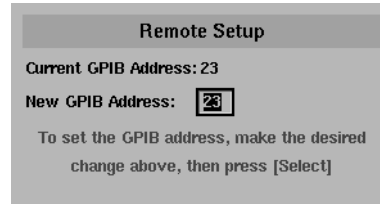

Figure 4. Remote Setup panel
2. Turn on the OSA and set its device address by first pressing the “System” key located below the display. Next press the softkey “More System Functions& “ and then the softkey “Remote Setup... “. This will bring up a panel entitled **Remote Setup** as shown in Figure 4. This panel allows the OSA address to be selected. The default address is 23. This can be changed by entering the desired address and pressing the “Set GPIB Address” softkey. Examples in this product note use the default address.